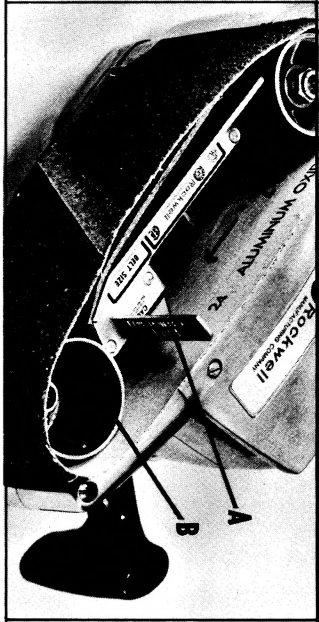

Fig. 1
2. Lay sander on its left side. (Fig. 1).
3. Pull lever (A) out and towards front of machine as shown. This retracts idler pulley (B) and releases tension on abrasive belt.
6. Engage front pulley by pushing lever (A) back to its original position.